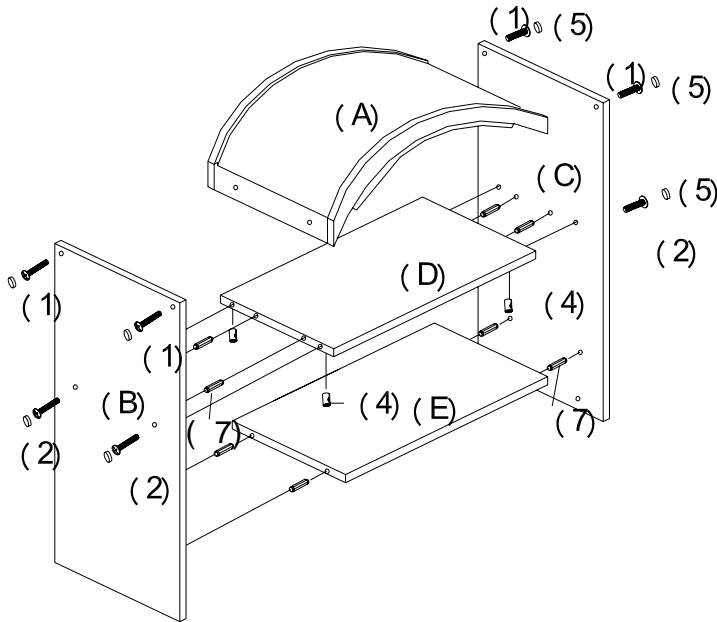

FIGURE 1
3. INSERT SMALL WOOD DOWELS ($\varnothing 6 \times 20 \text{mm}$) (7) INTO PREDRILLED HOLES ON ENDS OF UPPER AND LOWER FIXED SHELVES (D, E) AND FIT INTO CORRESPONDING HOLES ON INSIDE OF UPPER LEFT SIDE PANEL (B). INSERT T-BOLTS (4) INTO PREDRILLED HOLES ON UNDERSIDE OF UPPER FIXED SHELF (D). INSERT LARGE MACHINE SCREWS ($\varnothing 1/4 \times 1-1/2$ ") (2) THROUGH PREDRILLED HOLES ON OUTSIDE OF UPPER LEFT SIDE PANEL (B) AND TIGHTEN INTO T-BOLTS (4). PLEASE NOTE THAT IF SCREWS DO NOT TIGHTEN, ROTATE T-BOLTS (4) SO THAT THE THREADS OF T-BOLTS (4) ARE FACING SCREWS. TIGHTEN MEDIUM MACHINE SCREWS ($\varnothing 1/4 \times 1$ ") (1) THROUGH PREDRILLED HOLES ON OUTSIDE OF UPPER LEFT SIDE PANEL (B) INTO THREADED HOLES ON END OF TOP PANEL (A). FIT PLASTIC PLUGS (5) INTO HOLES ON OUTSIDE OF UPPER LEFT SIDE PANEL (B). ASSEMBLE UPPER RIGHT SIDE PANEL (C) IN SAME MANNER. (AS SHOWN IN FIGURE 1)